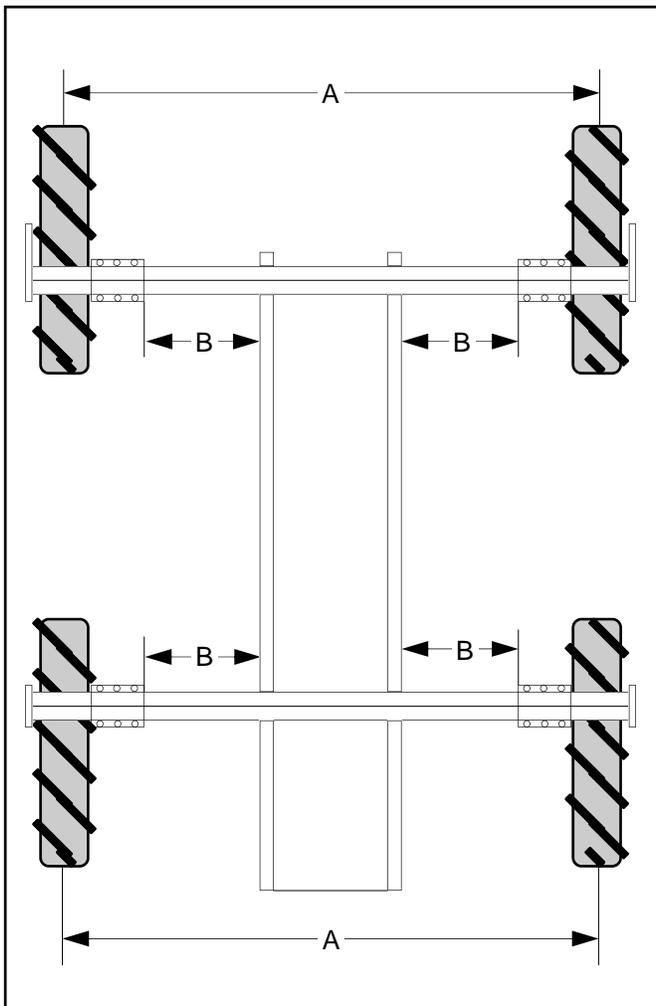

FIG 4.5
11. Repeat the above procedures to adjust and set the opposite side legs. When finished, all four legs should be the same distance from the mainframe (fig 4.5 dimension B).